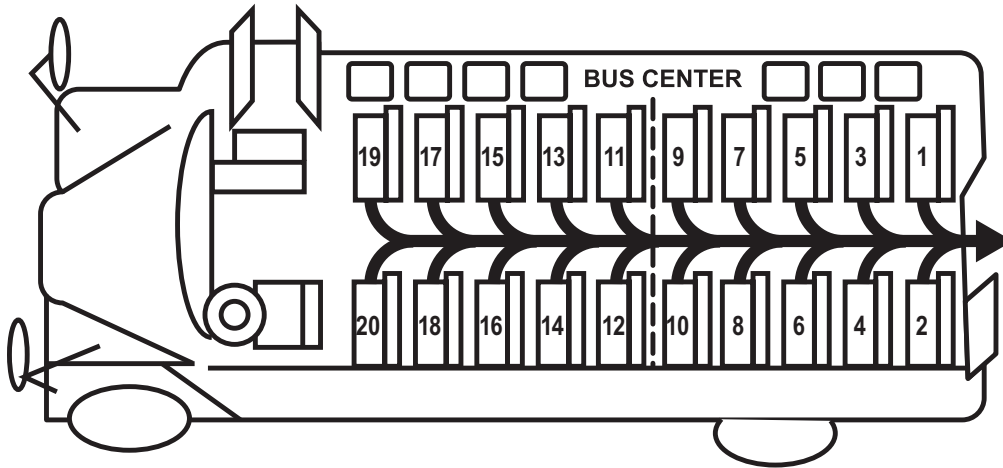

Figure 8-3. Evacuation Order for Rear Door Evacuation.
- For a rear door exit, students will evacuate in the following order: right back seat, left back seat, and the rest of the seats from right to left until the bus is empty (Figure 8-3).